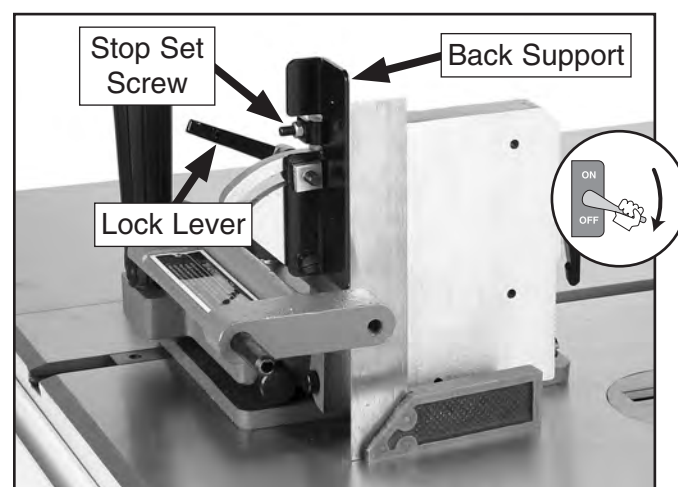

Figure 15. Adjusting the back support perpendicular to the saw table.
4. Loosen the jam nut on the positive set screw, then back off the set screw to allow adjustment to the back support (see **Figure 15**).
5. Position the machinist's square flat on the table and up against the back support of the jig, as shown in **Figure 15**.